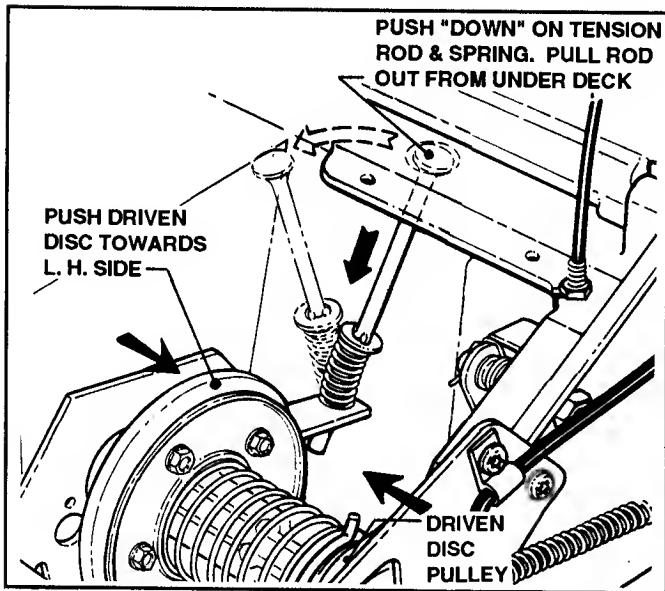

FIGURE 3.15
7. Push Driven Disc towards L.H. side of mower deck and remove Tension Rod by pressing down on rod and spring and pulling rod out from under deck. See Figure 3.15.